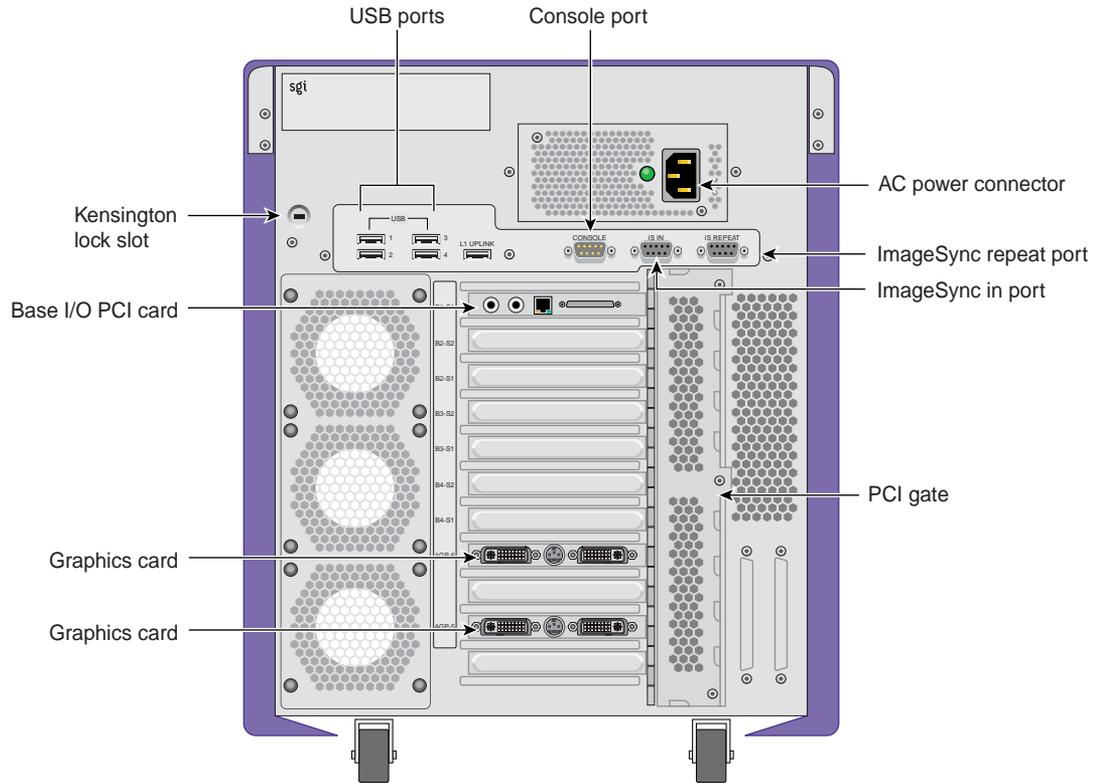

Figure 1-4 System Rear Panel Items
- Figure 1-4 on page 8 shows the rear panel items on the system.